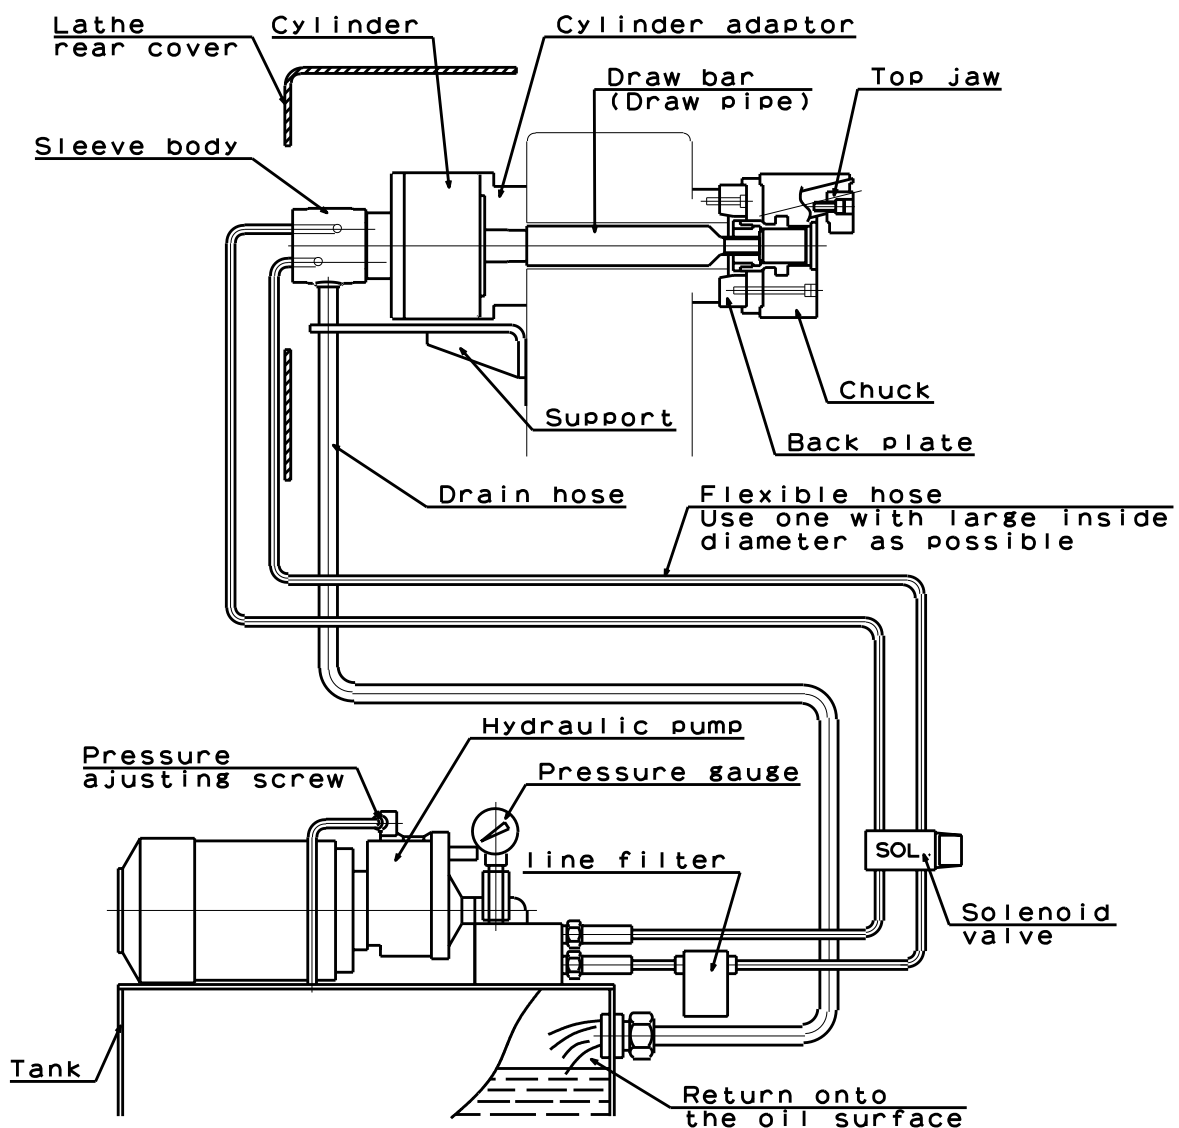

Fig.8
- **The end of the hose is physically above the oil level. (Refer to Fig.8)**